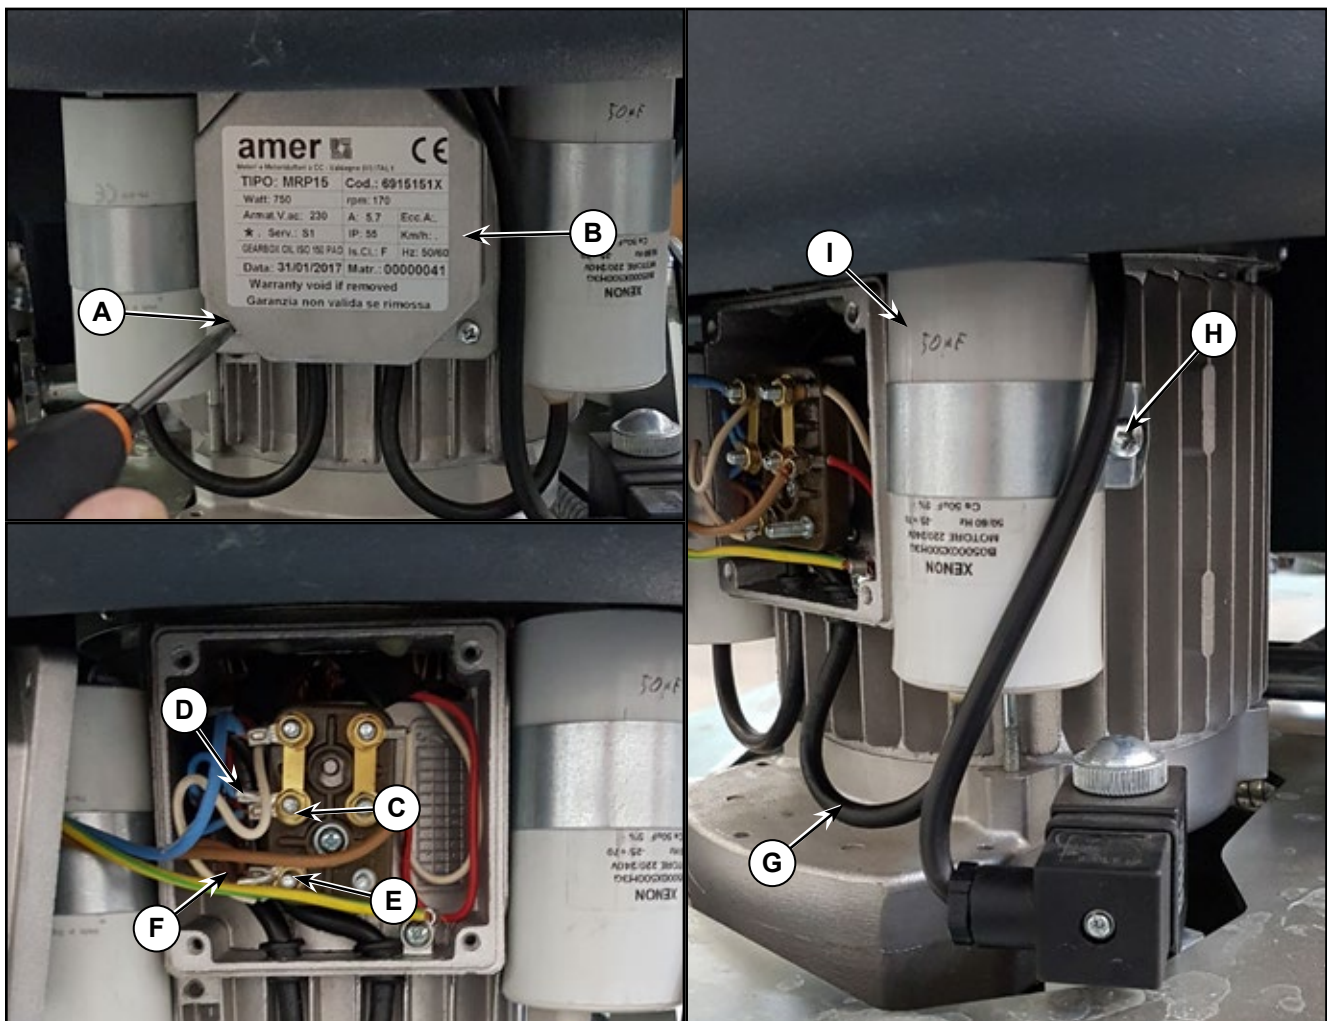

Figure 11:
3. Remove the four protective covers (A) (Figure 11) by disconnecting the clips.
4. Remove the carbon brush nuts (B) with the lead-in wires.
5. Disengage the tabs (C) and remove the carbon brushes (D).
6. Check the carbon brushes (D) for wear. The carbon brushes are worn out when: